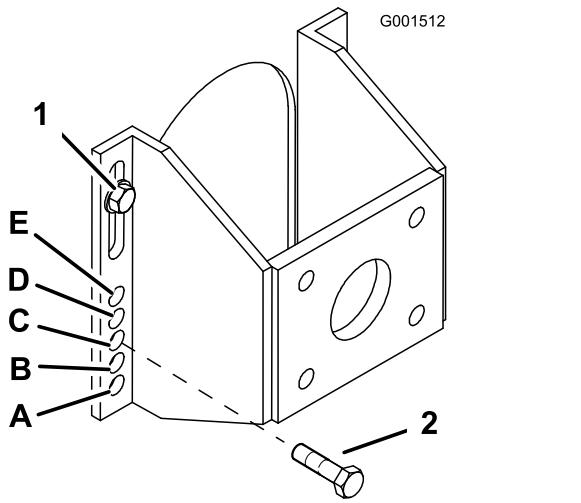

Figure 16
5. Loosen, but do not remove, the 2 top axle bolts (Figure 16).
6. Remove the 2 lower axle bolts (Figure 16).
7. Raise or lower the mounting bracket, so that you can install the 2 axle adjustment bolts in the desired hole location (Figure 16).